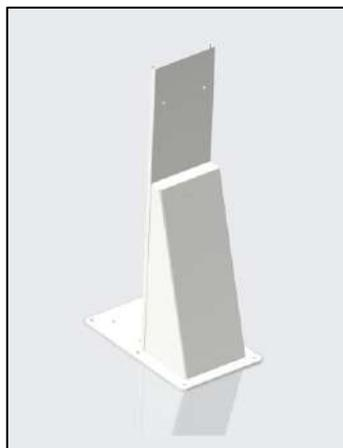

Figure 38 – Free-standing kit PFX-FMK 01 with cover and WS base plate
9. Place of free-standing attachment for optional free-standing mount configuration (refer to Figure 38).